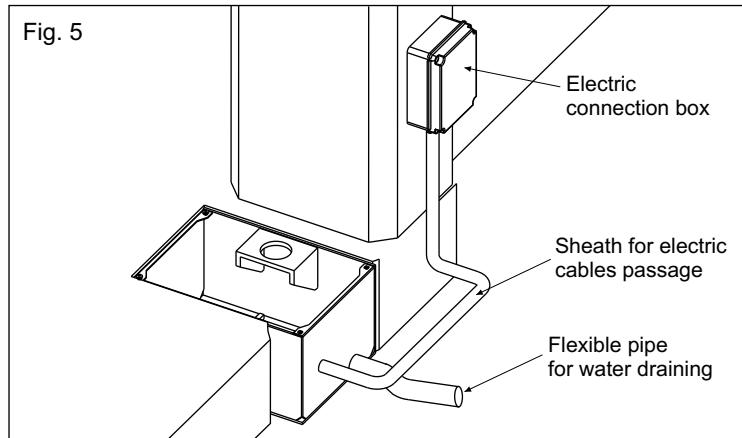

Fig. 5
- a water waste pipe in flexible plastic of about 40 mm of diameter to put inside the provided hole of the box before it is concreted (Fig. 5). **It must be brought until the drain of the sewer line;**
- a sheath for the passage of electrical cables of about 20 mm of diameter which must be brought to the proximity of the electric connection box (Fig. 5).